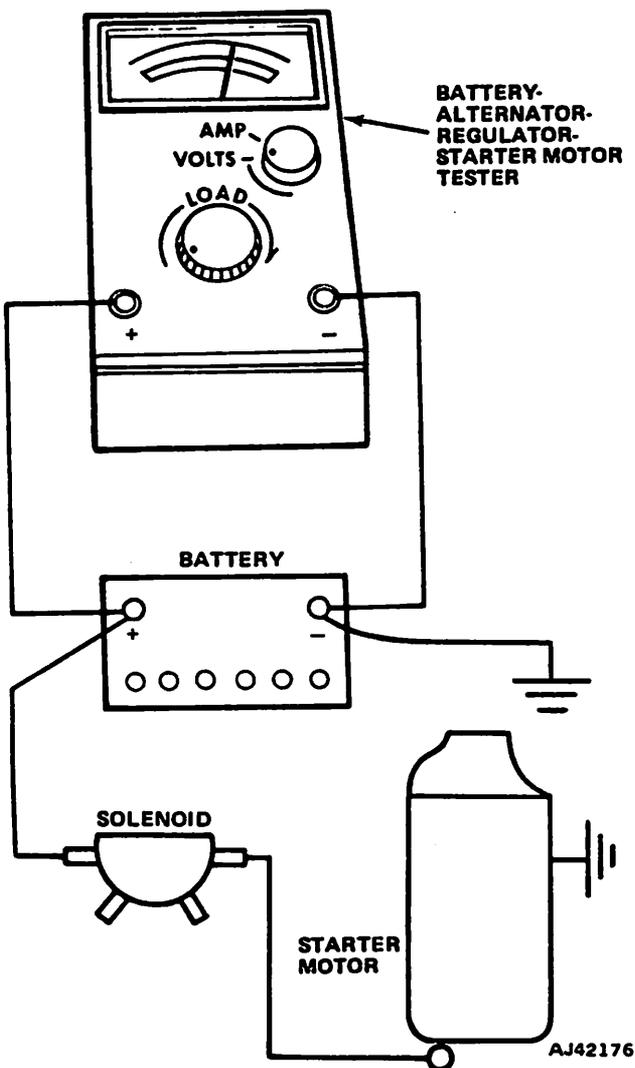

Fig. 1F-14 Starter Motor Full-Load Current Test
(2) Disconnect and ground ignition coil secondary wire.
(3) Connect remote control starting switch between battery positive terminal and S-terminal on starter solenoid.
(4) Connect battery-alternator-starter motor tester leads as depicted in figure 1F-14. Operate remote control starting switch and note voltage indicated on voltmeter while starter motor is rotating engine.
(5) Release remote control starting switch.
(6) Turn load control knob toward INCREASE (clockwise) until voltmeter indication matches that obtained when starter motor was rotating engine.